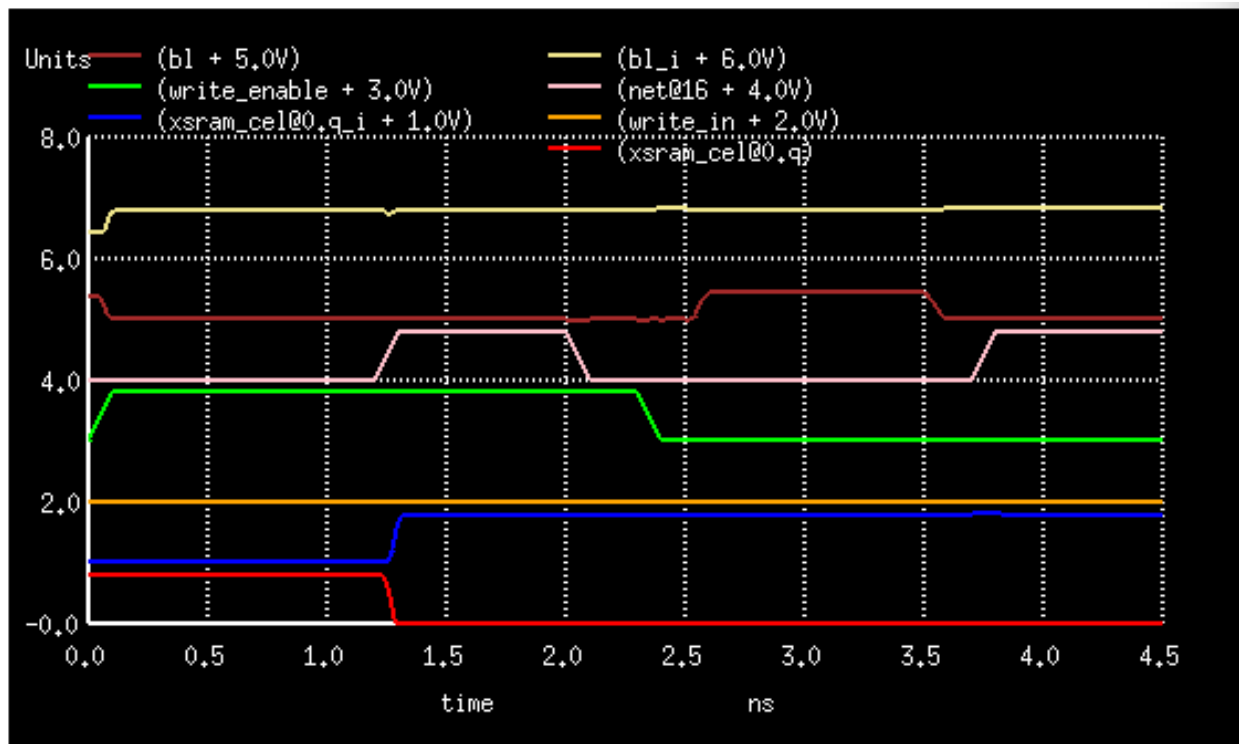

Figure 6: Writing 0 and then reading 0
1. Reading a 0 from a cell that was written to 0 (Figure 6).
In each reading case, we made sure that the reading process did not cause enough of a read upset to overwrite  $Q$ . These read upsets are not visible in Figures 6 or 7 and were on the order of tens of millivolts, so we are confident that reading from these cells is not destructive.